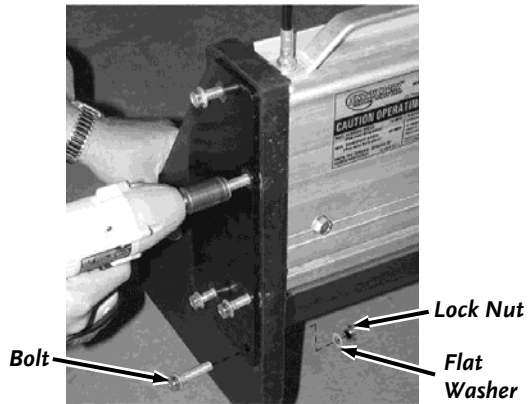

Figure 26
26. Tighten all bolts until rubber begins to compress to blade. Insert a 5th bolt to tighten bottom of rubber to bottom of end plate. Use flat washer and lock nut (**Figure 26**).